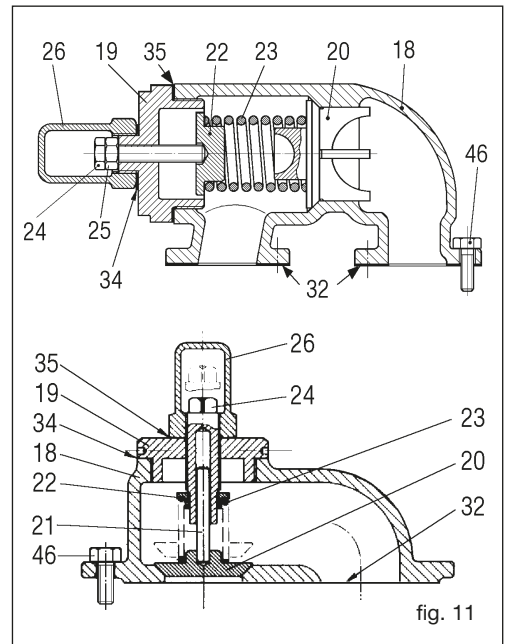

fig. 11
10.5 Regulation of the by-pass relief valve (fig. 11)
- ❑ If the pump mounts a by-pass relief valve (figure 11) on the cover (07) it is not necessary to remove it. If, however, the by-pass also requires maintenance, unscrew the screws (46) and remove it, taking care not to damage the gasket(s) (32). If the gaskets are damaged, replace them.